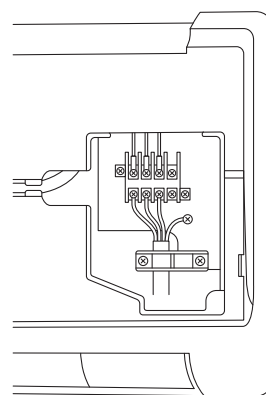

Fig. 26a
- (4) Route the inter-unit wiring from the back of the indoor unit and pull it towards the front for connection. (Fig. 26a, 26b, 26c or 26d)
- (5) Connect the inter unit wiring to the corresponding terminals on the terminal plate (Fig. 26a, 26b, 26c or 26d) while referring to the wiring diagram.
- (6) Be sure to secure the wiring with the provided clamp.